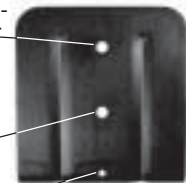

Figure 16
4. Attach the Nylon Pivot Pin to one of the L Mounting Brackets using the short Pivot Pin Screw and Lock Washer. Refer to figures 16 and 17 for the correct opening location.
7. Referring to figures 16 and 17 install the Mounting Sleeve on the wall (orient with opening at the top) using the supplied Mounting Screws (Phillips Head 1/4 x 1-3/4 inch).